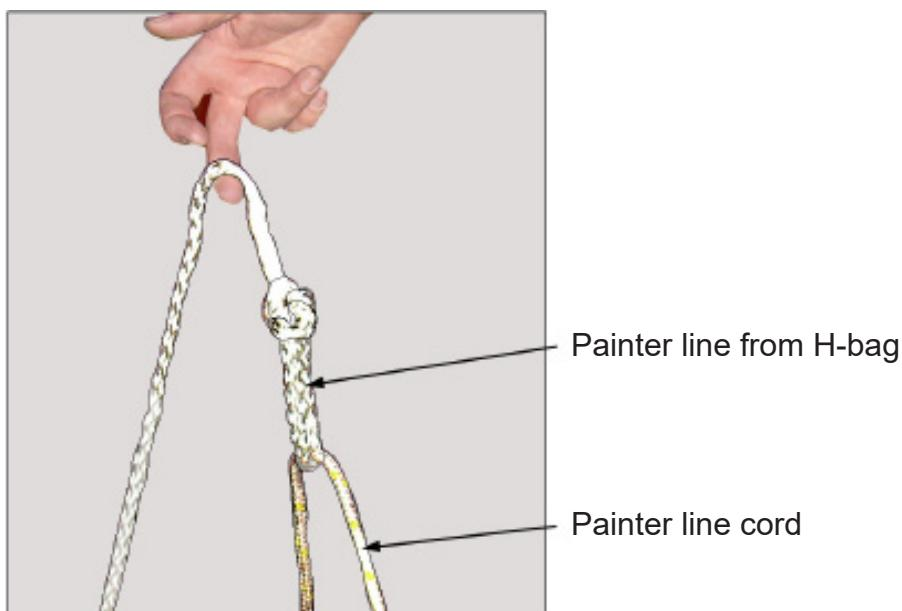

FIGURE A7-15
2.29 Using the painter line from the H-Pack, tie it to a strong point on the liferaft. Refer to FIGURE A7-15.